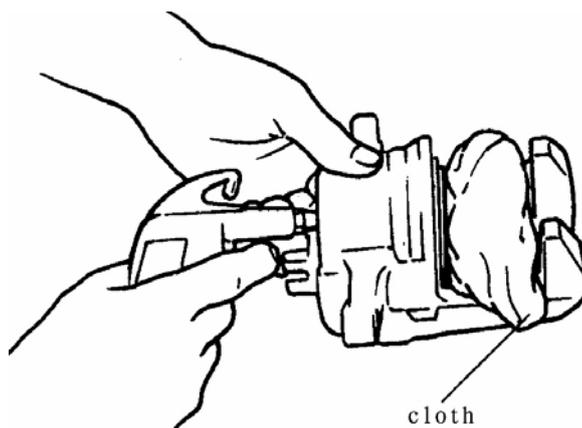

FIG.16-17
- (4) Blow in compressed air into cylinder through bolt hole where hose was fitted. With this air pressure, piston can be pushed out of cylinder (FIG.16-17)